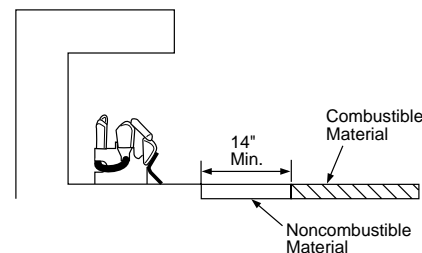

Figure 9 - Minimum Fireplace Clearances if Installed at Floor Level
- A. If installing appliance on the floor level, you must maintain the minimum distance of 14" to combustibles (see Figure 9).